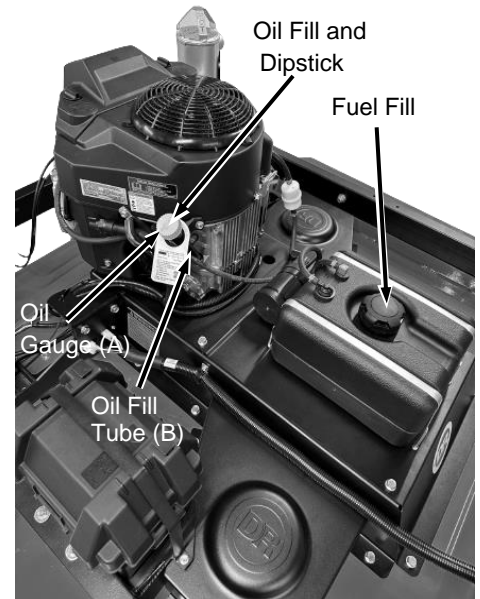
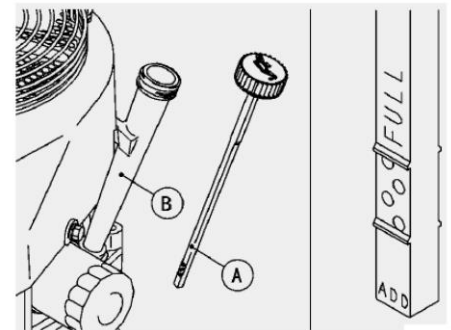

Figure 19
Figure 20
1. Place the machine on a level surface and remove the Oil Fill Cap/Dipstick (**Figure 19**). Initially pour 32 oz of the Engine Manufacturer's recommended Oil based on operating temperature range (found in Engine Owner's Manual). This should be about half the required Oil.
2. Remove the Oil Gauge (A) and wipe it with a clean cloth.
4. Insert the Oil Gauge (A) into Tube (B), but do not screw it in.
5. Remove the oil gauge (A) to check the oil level. The level should be between "ADD" and "FULL" marks (**Figure 20**). **DO NOT** overfill.
6. Install and tighten the oil gauge (A).